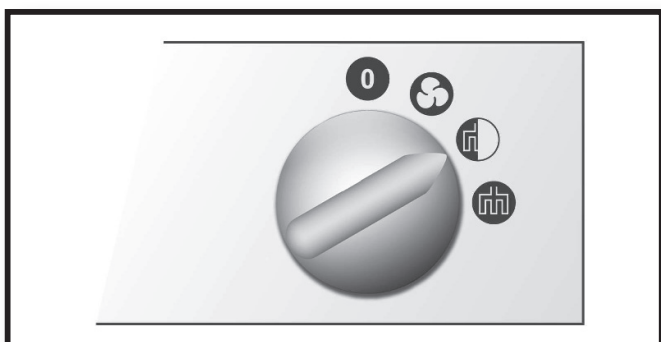

Fig. 6
- ▶ 1st degree of heating: Fig. 6, and